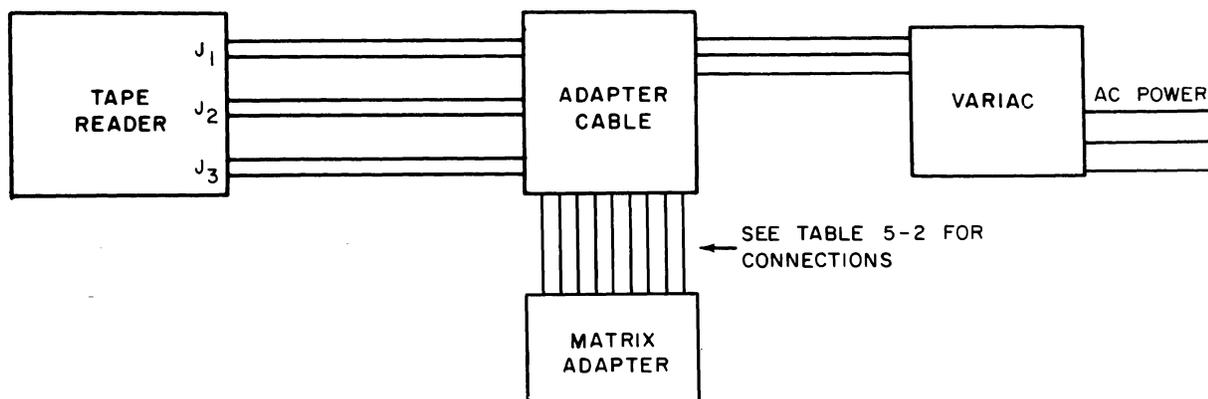
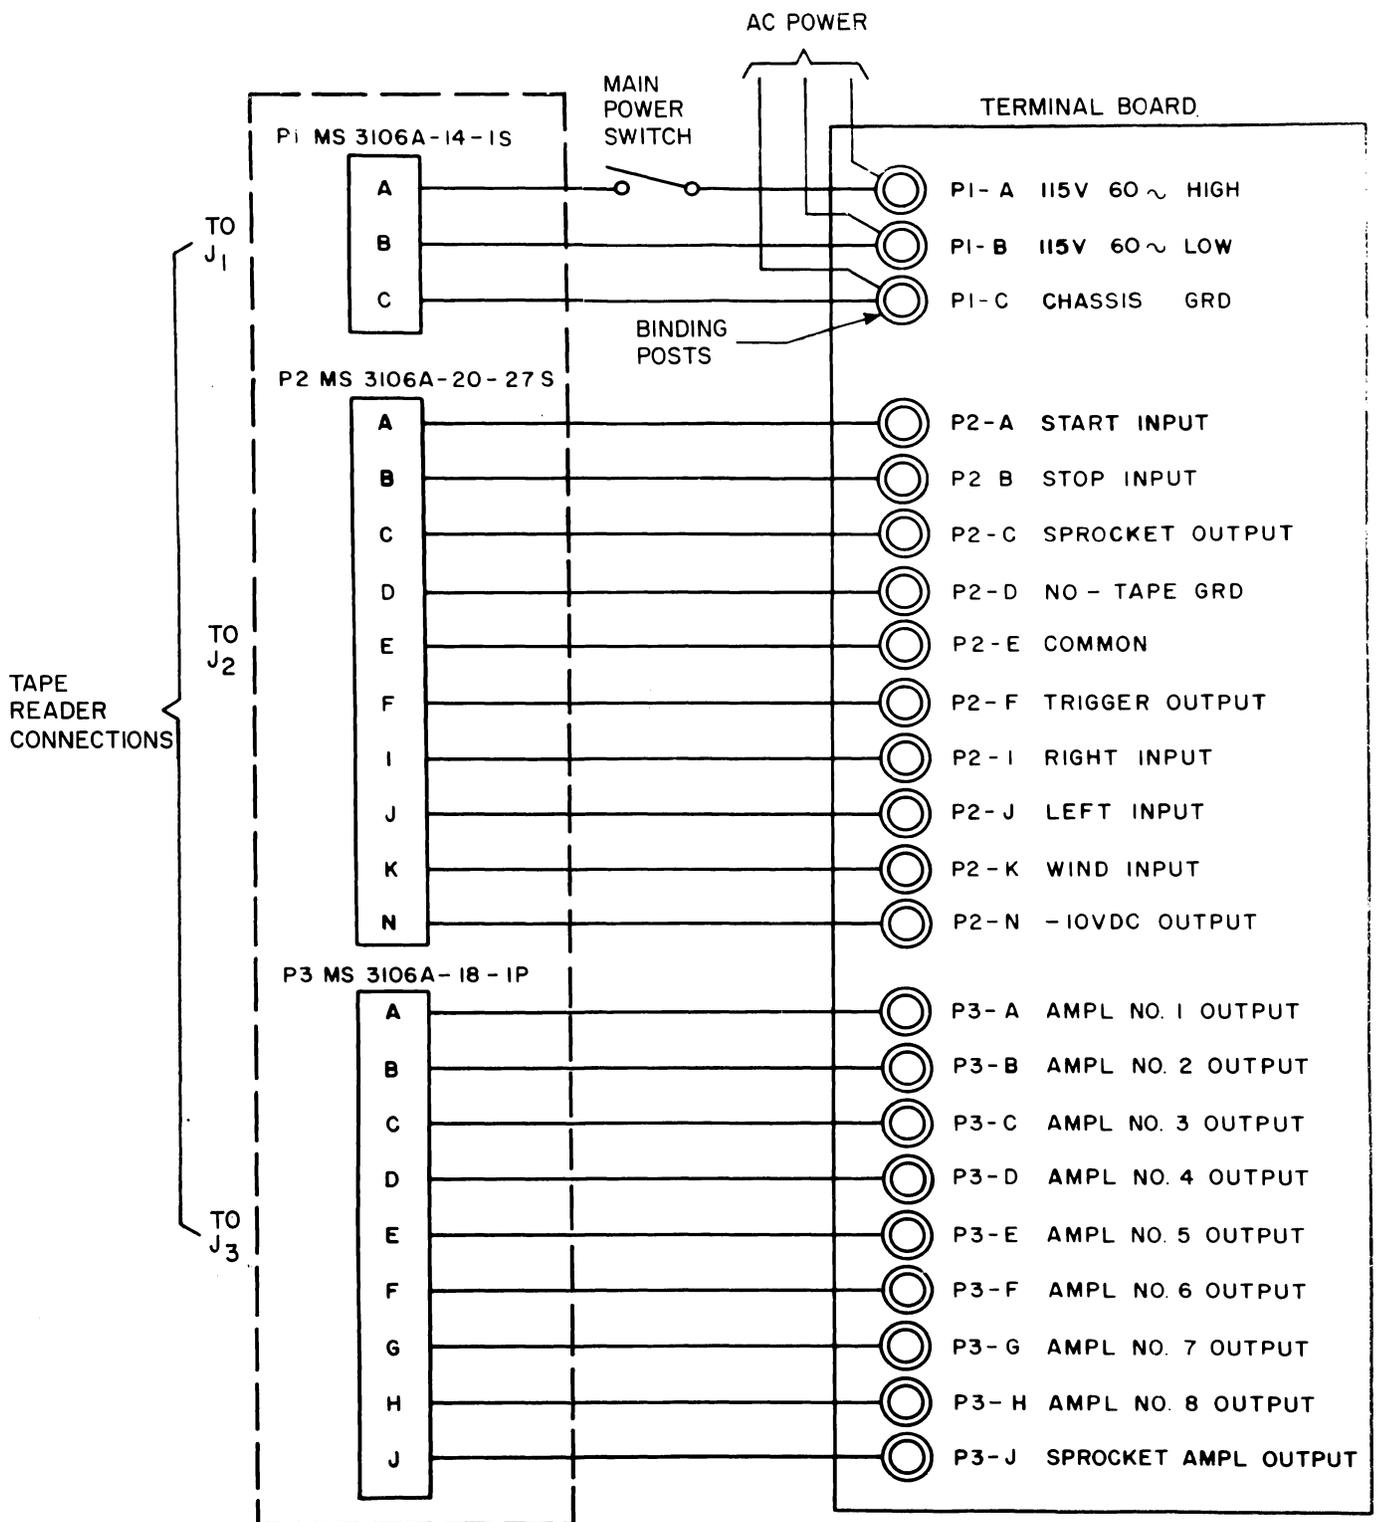

Figure 5-2. Test Set-Up
Figure 5-3. Adapter Cable, Schematic Diagram
b. Connect the test equipment to the tape reader as shown in figure 5-2. The adapter cable and matrix adapter should be fabricated as shown in figures 5-3 and 5-4, respectively. Table 5-2 gives the connections to the matrix adapter.